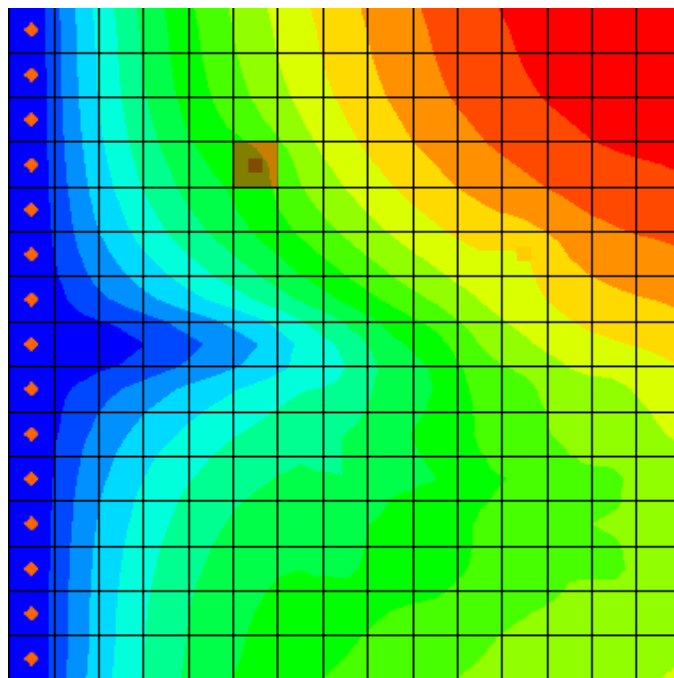

Figure 6 The well cell to select
2. Using the **Select Cell**  tool, right-click on the well cell in the upper left (*IJK* coordinates of “4, 6, 2”, Figure 6) and select **Sources/Sinks...** to bring up the *MODFLOW Sources/Sinks* dialog.